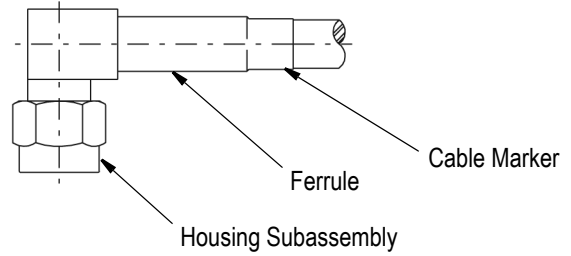

Figure 4
1. Position the cable marker over the ferrule, as shown in Figure 4.